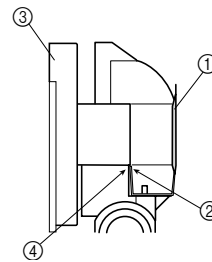
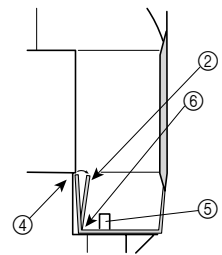

Fig. 2-7-1
Fig 2-7-2
- a) The A portion ② on the left and right ribbon separator (see Fig. 2-7-1 and Figure 2-7-2) is inserted in the print head ③ corner B portion ④ so use the tweezers to bend it approximately 5 degrees, then remove and lift the ribbon separator directly upward from the print head.
- b) Use the tweezers to set the A portion on the left and right of the ribbon separator to fit into the corner of the print head and push near the C portion ⑥ (Fig. 2-7-2) until you hear a click.